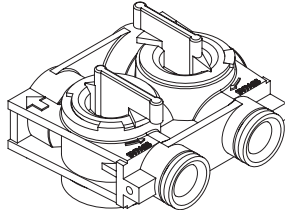

Figure 8
- Move the bypass valve handles to the service position. The valve handles should be parallel to the pipes (see figure 8).